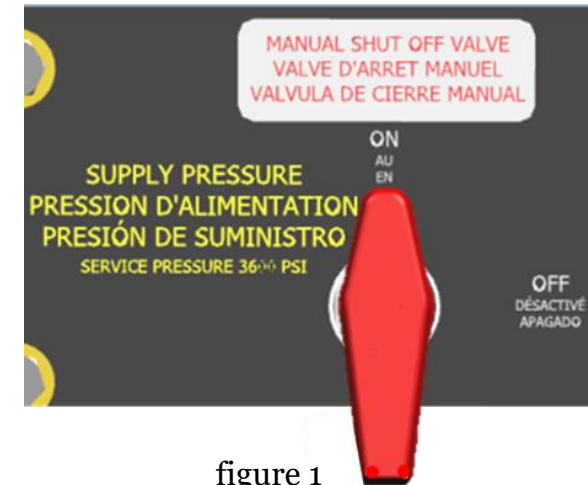

figure 1
3. Turn the valve clockwise 1/4 turn to the OFF-position figure 1 and 2.